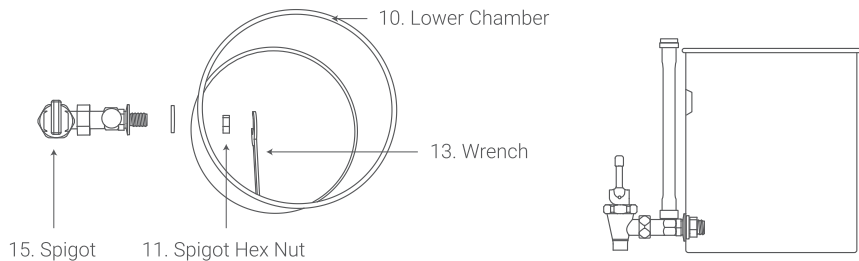

Figure 2
Insert a Spigot (15) into the hole on one side of the Lower Chamber (10), and tighten a Spigot Hex Nut (11) with an attached Wrench (13). (Figure 2)